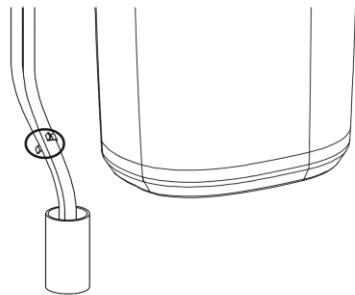
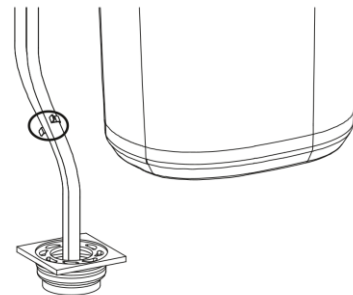

Fig. 1
Fig. 2
- After completing the installation steps in step 4, check whether the bypass is in “water supply” (service) mode (Fig. 1). If the bypass is in bypass mode (Fig. 2), pull the push rod into the “water supply” position (Fig. 1).
- Treatment of bypass valves in special cases: In the event of a failure of the device or other special circumstances, the bypass valve of the machine can be set to the bypass state (push the pull rod to the operating position as shown in Fig. 3). You can temporarily use the municipal water supply directly. Once the fault or problem has been rectified, set the bypass valve to the operating position (push the pull rod to the position shown in Fig. 2) to restore the soft water supply.